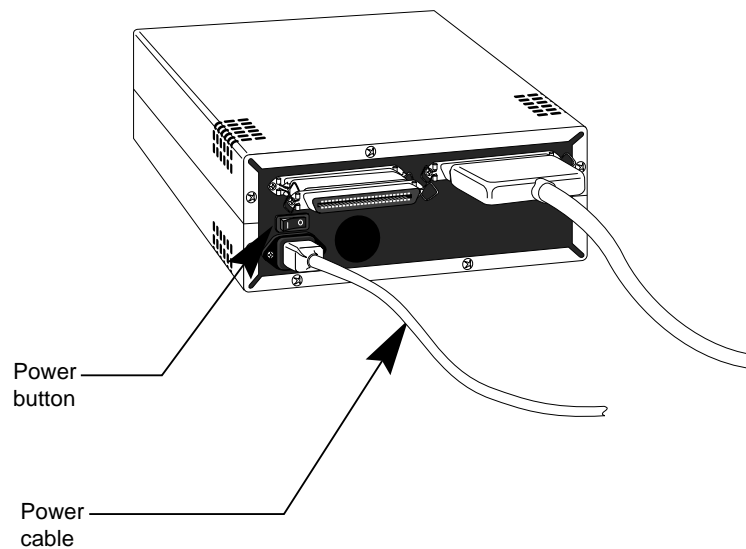

Figure 4-11 Power Cable and Power Switch on the Back of the SCSI Drive
5. Connect one end of the power cable that came with your device to the power connector on the back of the device, as shown in Figure 4-11.
The power button is on the back of the device, as shown in Figure 4-11.